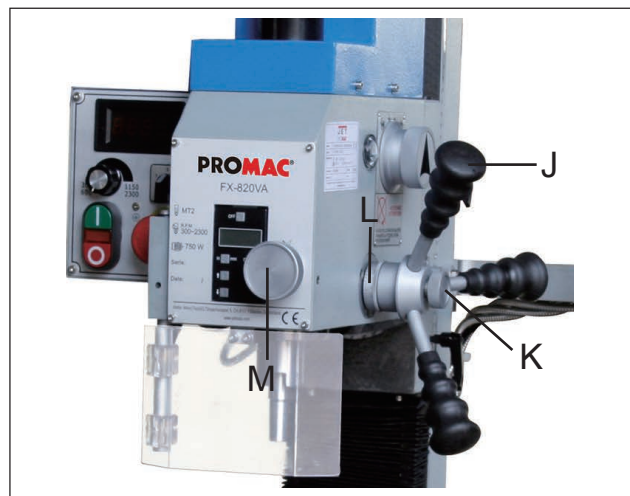

Fig. 12
3. After setting the depth use the right head fine feed switch (K, Fig. 12).
4. With the lever (M, Fig. 12) to start feed, until the desired depth is reached.